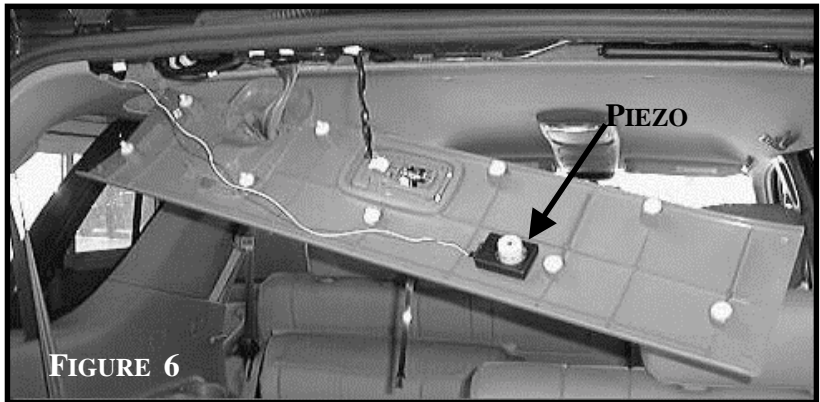

FIGURE 6
- C. Mount the Piezo unit using Velcro as shown in FIGURE 6.